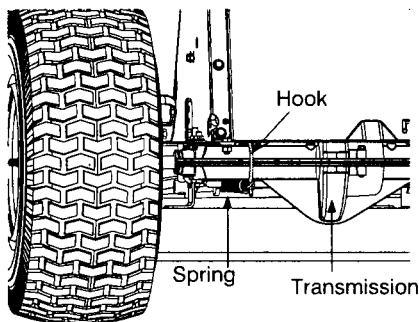

FIGURE 18
- Using a spring puller (Part No. 732-0571) or other suitable tool, disconnect the spring which is attached to a small hook found on the left, rear portion of the transmission. See Figure 18